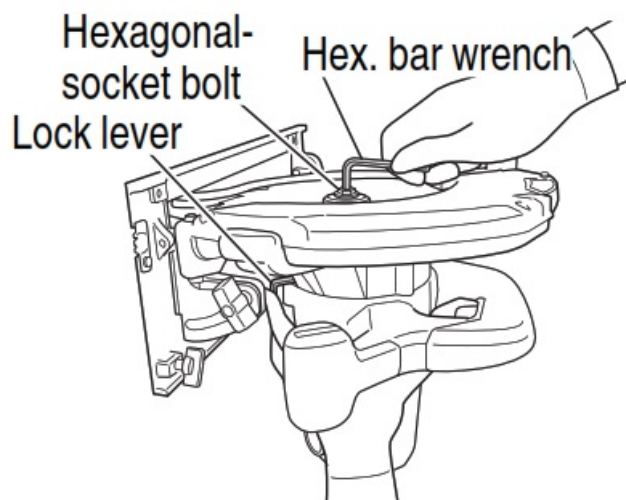

Fig. 13
- (1) Set the cutting volume at maximum, and place the circular Saw as shown in Fig. 13.